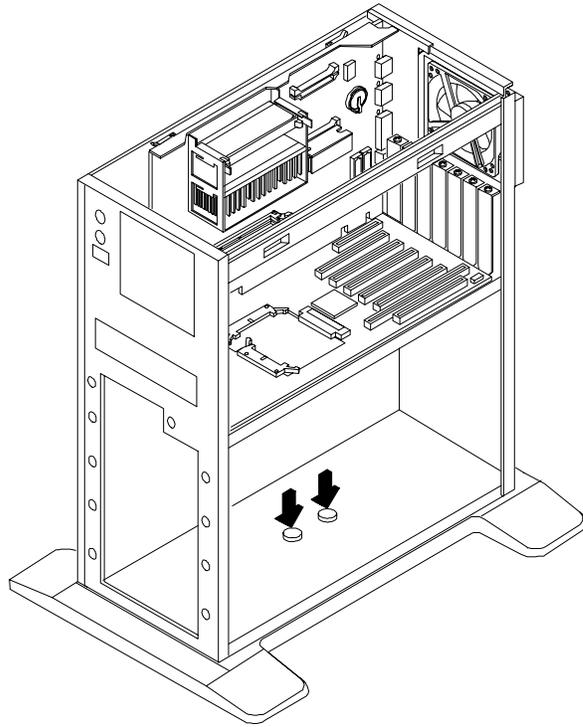

Figure 5-1. Depress the Two Plastic Buttons
1. Depress the two plastic buttons that protrude through the metal base plate of the HP NetServer, as shown in Figure 5-1.